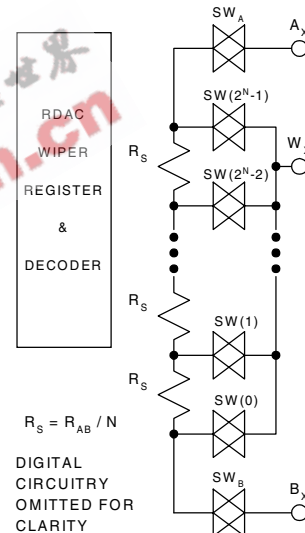

Figure 3. Equivalent RDAC structure
The actual structure of the RDAC is designed to emulate the performance of a mechanical potentiometer. The RDAC contains a string of connected resistor segments, with an array of analog switches that act as the wiper connection to several points along the resistor array. The number of points is the resolution of the device. For example, the AD5232 has 256 connection points allowing it to provide better than 0.5% setability resolution. Figure 3 provides an equivalent diagram of the connections between the three terminals that make up one channel of the RDAC. The SWA and SWB will always be ON while one of the switches SW(0) to SW(2N-1) will be ON one at a time depending upon the resistance step decoded from the Data Bits. Note there are two 50 ohm wiper resistances, RW. The resistance contributed by RW must be accounted for in the output resistance. At terminals A-to-wiper, RW is the sum of the resistances of SWA and SWX. Similarly, RW is the sum of the resistances SWB and SWX at terminals B-to-Wiper.